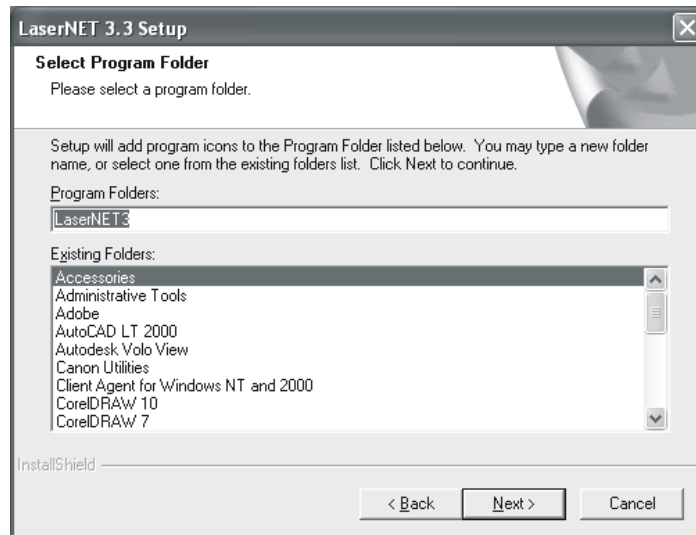

Figure 1-8. Select Program Folder Screen
6. Select Program Folder (Figure 1-8). The system will automatically default to create a new folder for LaserNET (Figure 1-8). To choose another folder, scroll down the list and click on the folder in which LaserNET should be placed, or type in a new folder name. Click the **<Next>** button to start the installation process.